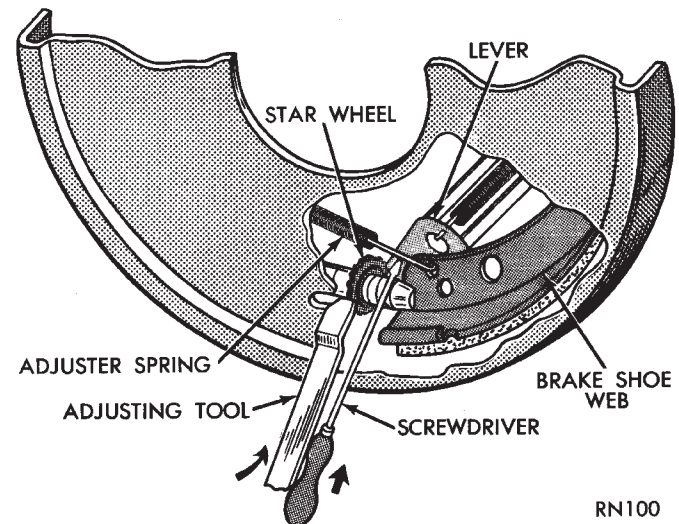

Fig. 2 Brake Drum Adjustment With Tool C-3784
(4) Insert Brake Adjusting, Special Tool C-3784, (Fig. 2) or equivalent through the adjusting hole in support plate and against star wheel of adjusting screw. Move handle of tool upward until a slight drag is felt when road wheel is rotated.
(5) Insert a thin screwdriver or piece of welding rod into brake adjusting hole (Fig. 2). Push adjusting lever out of engagement with star wheel. **Care should be taken so as not to bend adjusting lever or distort lever spring.** While holding adjusting lever out of engagement, back off star wheel to ensure a free wheel with no brake shoe drag.